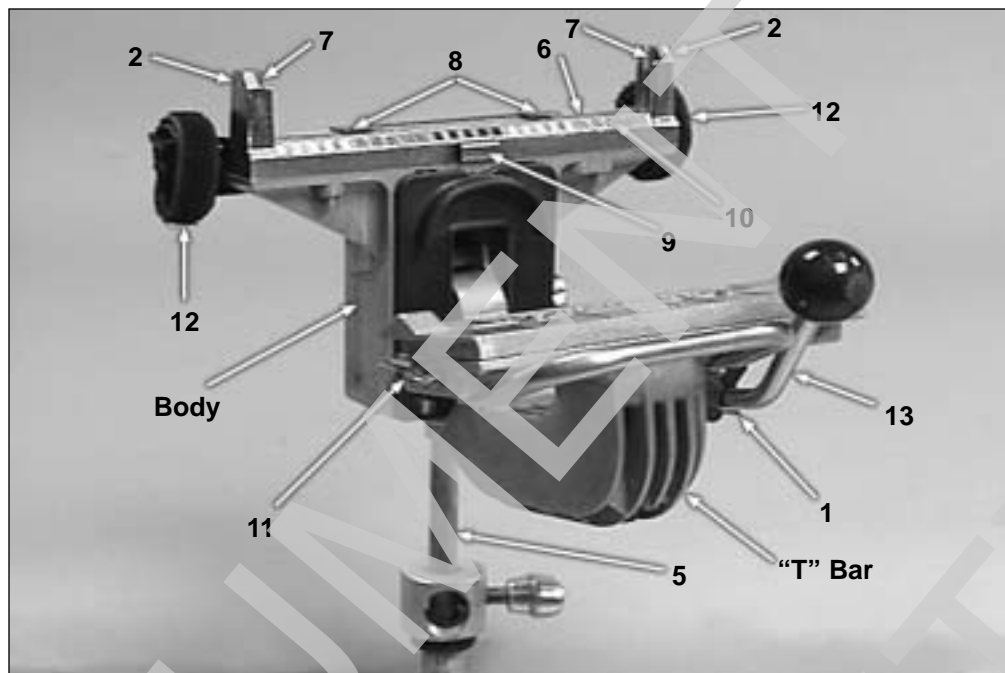
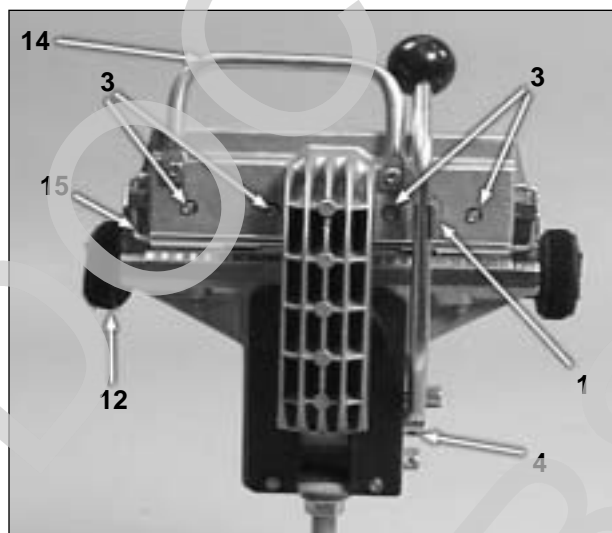

Figure 1
Figure 2
| 1. Handle Retaining Clip (fig. 1 & 2) | 8. "L" Clip Module (fig. 1) |
| 2. Vertical Side Posts (fig. 1) | 9. "L" Clip Release Knob (fig. 1) |
| 3. Blade Retaining Screws (fig. 2 & 3) | 10. Color Code Guide (fig. 1) |
| 4. "T" Bar Locking Knob (fig. 2 & 3) | 11. Cutter Blade Holder Assembly (fig. 1) |
| 5. Uni-Presser Support Rod (fig. 1) | 12. Conductor Group Holder (fig. 1, 2 & 3) |
| 6. Module Assembly Channel (fig. 1) | 13. Handle (fig. 1 & 3) |
| 7. Module Guides (fig. 1) | 14. Carrying/Operational Handle (fig. 2 & 3) |
1. Set group holders (fig. 1 #12) 38mm (1 1/2") above the position of the cable units to be spliced.
2. To disengage the "T" bar from the locked position, turn the locking knob until the flat section releases the "T" bar. (fig. 2 & 3 #4)
4. Insert an index strip between the vertical side posts. (fig. 1 #2) The index strip cathedral windows and latch locks should face the operator/front.
5. Push the "L" clip knob inward to allow the index strip to seat along the module assembly channel and locate under the spring loaded "L" clips (fig. 1 # 8 & 9)
6. Secure the 25-pair group through the conductor group holder. (fig. 1 #12) and dress individual pairs into the cathedral windows of the index strip. Each pair is divided by a colored peak projection. To assist correct assembly, a color code guide (fig. 1 #10) is located on the operator side of the tool.
9. Position the "T" bar upright above the index strip between the vertical side posts. (fig. 1 #2)
12. With the conductors seated and cut, return the handle to the upright and engage it firmly within the handle retaining clip. (fig. 2 #1) Position the "T" bar clear of the module assembly area.
19. With the conductors seated and cut, return the handle to the upright and engage it firm within the handle retaining clip. (fig. 2 #1). Position the “T” bar clear of the module assembly area.
20. Insert a cap between the vertical side posts above the module body. (fig. 1 #2). Push down on the cap to lightly engage the module body. Ensure the cap latches face the operator/front.
22. Return the handle to the upright position and engage it firmly within the handle retaining clip. Return the “T” bar clear of the module assembly area. Push the “L” clip to release the module. (fig. 1 #9) The 25 pair straight splice is now complete.
29. To remove the module, push the “L” clip (fig. 1 #9) in and lift clear of Uni-Presser. The half tapped module is now complete.
33. Position a 3M710 red bridge module support (fig.4 #3) between the vertical side posts (fig. 1 #2) with the word FRONT facing the operator/”T” bar. Push the “L” clip button inward, (fig. 1 #9) and release to secure the support in position.
34. Position a bridge module into the red bridge module support. Hand seat the module firmly with the peak colors matching the color code check strip (fig.1 #10) and cathedral windows facing forward/front.